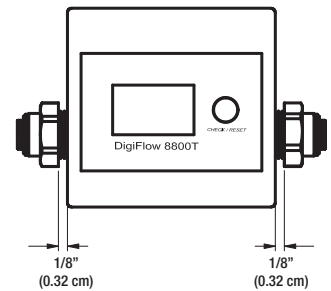

Figure 2
1. Install batteries (included): Remove the battery compartment cover located on the top of the unit and install two (2) “AAA” batteries. Replace battery compartment cover. The LCD panel should now show “1,000 gal”.
2. Install fittings: The DigiFlow 8800T connection is 3/8” MNPT female. Fittings to use are 3/8” MNPT male connection which is connected to the supply and feed tubes. Install both fittings to a distance of 1/8” (0.32 cm) from flow monitor housing (see figure 2 to the right).
5. Reset PID: After the cartridge has been replaced, press the “CHECK/RESET” button for four (4) seconds. A long “beep” sound can be heard and the remaining capacity on the LCD screen is reset to 1,000 gallons.